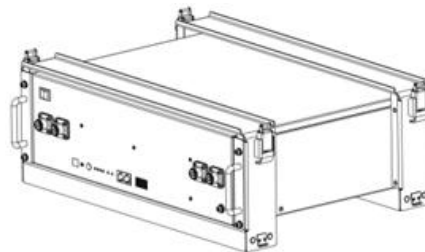

Figure 3-5
1. Place the DL3.6 and brackets as shown in the figure 3-5, and insert the DL3.6 into the brackets. Use 4 screws to fix the module on the front bracket.